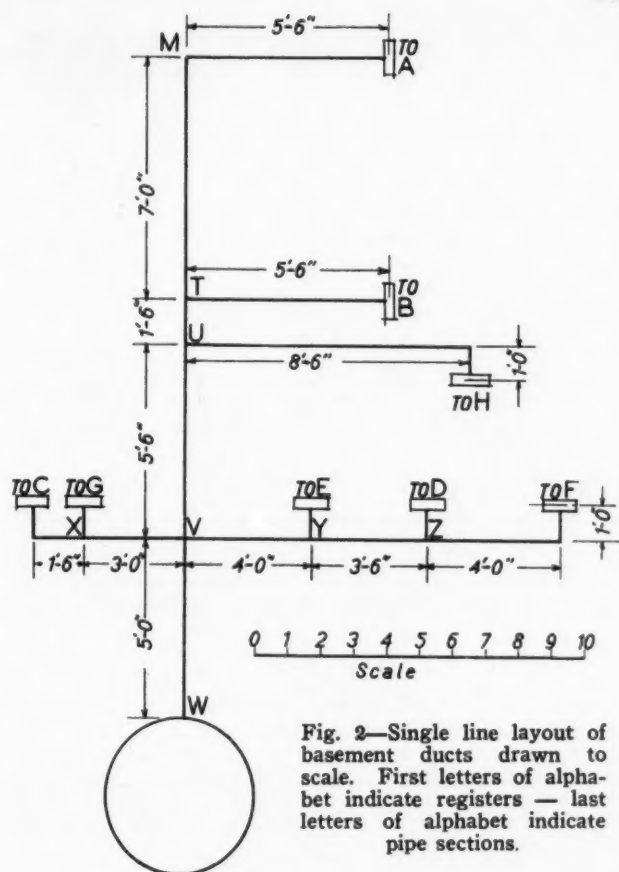

Fig. 2—Single line layout of basement ducts drawn to scale. First letters of alphabet indicate registers — last letters of alphabet indicate pipe sections.
branches join the trunk line are designated by the last letters of the alphabet, T, U, V, W, X, Y and Z. An intermediate point M is shown in Figs. 2 and 3, merely for convenience in explaining the method of determining equivalent duct lengths.
Having tabulated the c.f.m. requirements for the various rooms, the next step is to make a diagram (Fig. 2) representing the duct arrangement in the basement. Although not absolutely necessary, it is helpful if this diagram is drawn to scale to assist in determining the lengths of the duct sections. The easiest way is to indicate on the basement plan the location of risers (and first floor registers if they are of the floor or base-board type); then lay a sheet of tracing paper over the plan and on this draw single lines to represent the ducts as in Fig. 2. Thus the basement duct lengths can be measured directly.
Turning now to the preparation of the "Friction Pressure Chart Data Sheet" (Fig. 3) we select the most remote register (A) in room 203 and for Item I, we measure on our diagram (Fig. 2) the length of horizontal run in the basement, and add to this the number of running feet of riser including cross-overs, if any.
There is one 90° turn where the air changes its direction of flow from vertical (through the furnace) to horizontal at "W." At "M" (Fig. 2 and Fig. 4) is a second 90° elbow. At the base of the riser (Fig. 4) there are two 45° angles which, together, amount to one 90° elbow. Between the first floor ceiling and the second floor, there are two 90° turns and a final 90° turn at the register A where the direction of air flow changes from vertical to horizontal. This makes a total of six 90° elbows and allowing 10 feet for each elbow we enter $6 \times 10 = 60$ as Item II on the data sheet.
Item VI-T-2, the length in running feet of this trunk section is found by reference to Figs. 2 and 4, to be 27 feet and is so entered on the data sheet. ($7.0 + 5.5 + 12.5 + 1.5 + .5$.)
Figs. 2 and 4 also show five elbows ($90^\circ + [45^\circ + 45^\circ] + 90^\circ + 90^\circ + 90^\circ$) in this section and since each elbow is considered equivalent to 10 feet of pipe, we enter 50 as Item VI-T-3 for trunk section T-A.